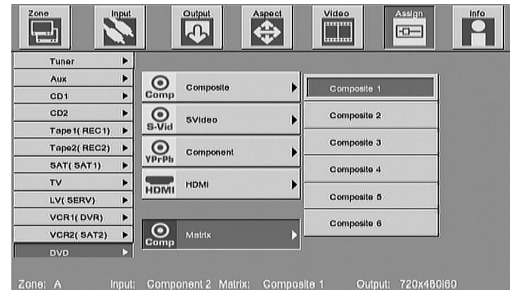

Figure 10
- Press the ▶RIGHT push-button to select COMPOSITE 1 (the Input Number of the Rear Panel Connector the DVD Player Composite Video Output is connected to). Refer to figure 10.